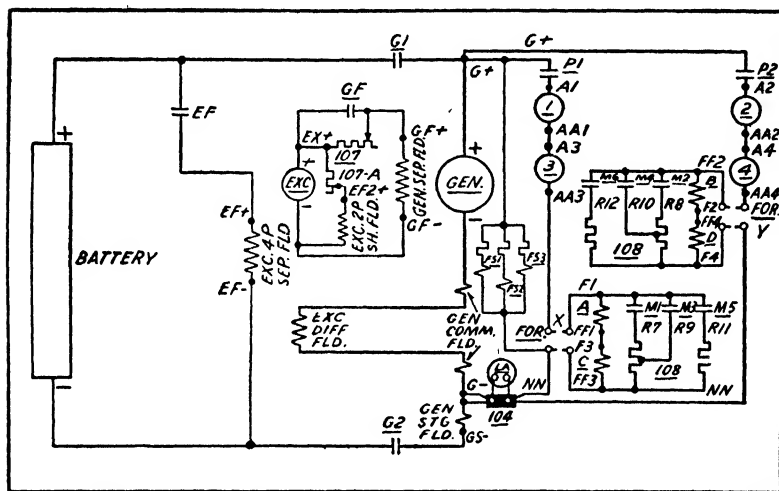
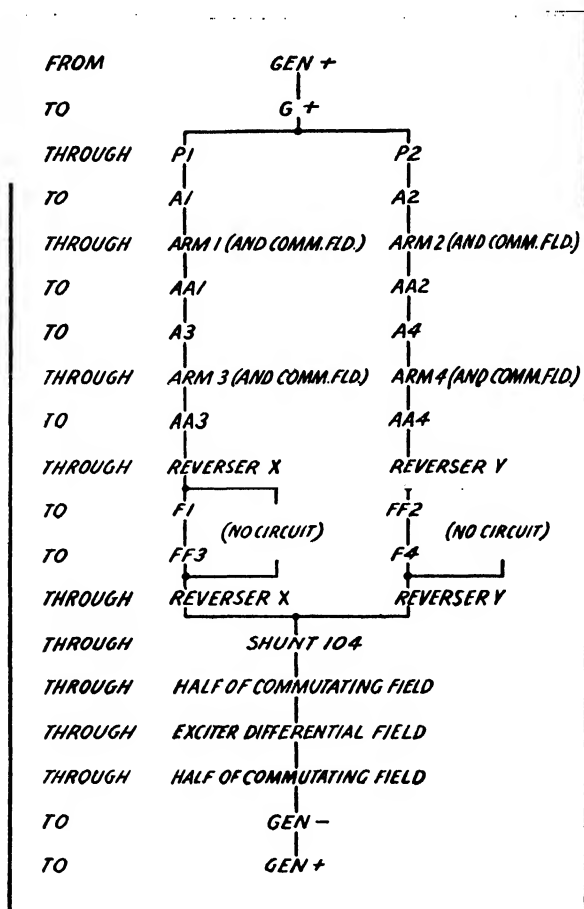
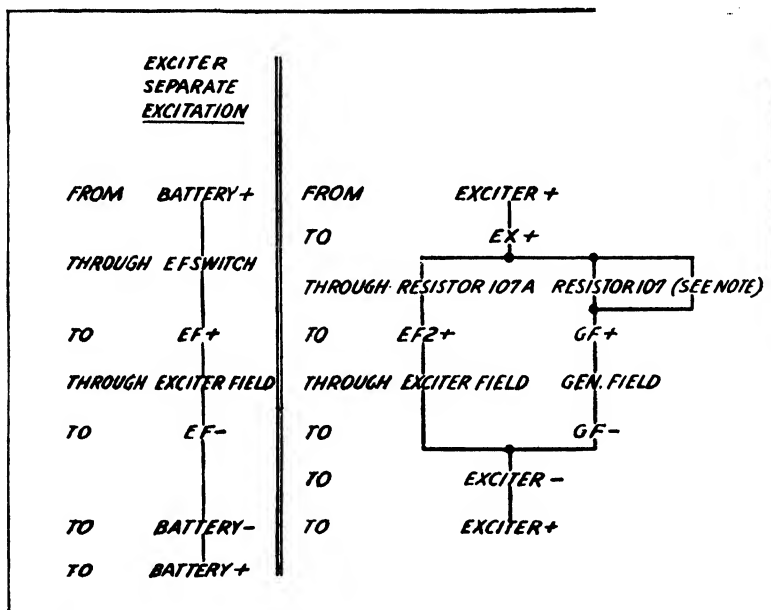
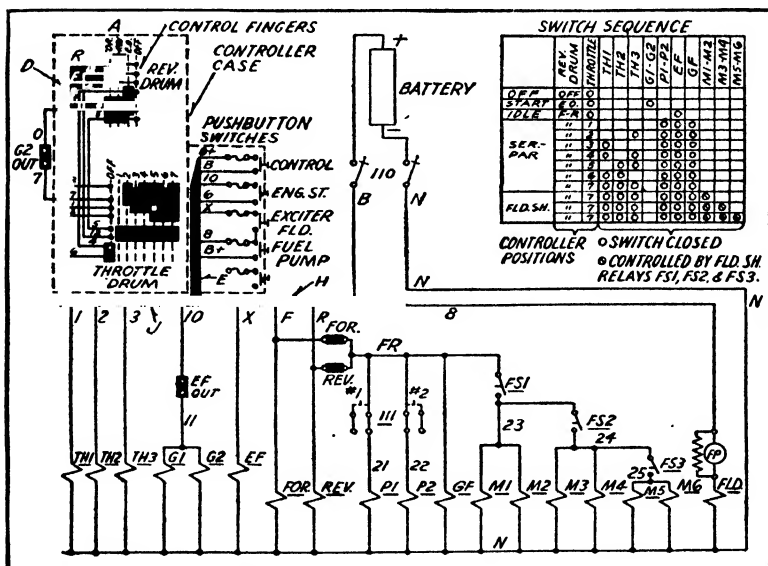

Fig. 30. Schematic Diagram of Main Circuits
Fig. 31. Tracing Through Main Circuits
Fig. 33. Tracing Through Exciter Circuits
Fig. 35. Control Schematic Diagrams
Referring to Fig. 30, this diagram represents the main power circuits of a 1000 horsepower Diesel locomotive. Before following this through, it is necessary to identify each piece of apparatus. The various exciter and generator field coils are labeled and are readily distinguished. The other items are as follows:
Figs. 31 to 34 show a method of following through the main power circuits of Fig. 30. Fig. 31 shows the first step in the application of propulsion power. As the train accelerates, it is desirable to
Fig. 33 traces the excitation circuits of the main generator, as shown by Fig. 30. One other function is shown in Fig. 30—that of starting the Diesel engine by using the main generator as a motor,
The control circuits are somewhat more difficult to follow through because there are so many more of them. The prime purpose of control circuits, of course, is merely to cause the contactors in the main power circuits, Fig. 30, to close or open at the proper time, to move the reverser to the position which gives the desired direction of train movement, to control the engine speed, and to insure that the circuits cannot be improperly set up. Referring to the control circuit schematic, Fig. 35, the first step is to identify each piece of apparatus shown and to determine how it functions.
- G2 OUT ..... Interlock—makes circuit when G2 contactor (see Fig. 30) is open (out).
M6 } Operating coils of their respective contactors (See Fig. 30).
Note that the ENG ST (Engine Starting) push button has a spring under it to return it to the open position when the pressure is released. In upper right-hand corner of diagram, Fig. 35, is a
When the voltage of the main generator reaches 600 volts, the FS1 relay closes (Fig. 30 shows three coils connected to be energized by the voltage of the main generator) and establishes a circuit from the FR wire (Fig. 35) to 23 wire, thereby energizing coils M1 and M2. Likewise, FS2 relay and FS3 relay bring in additional traction motor field shunting switches, M3, M4, M5, and M6 in two progressive steps as the generator voltage rises.
Figs. 30 to 38 illustrate the method of tracing out the circuits for the purpose of determining which of the relays, coils, and apparatus are energized or operated under the different control conditions. It is always necessary to consult the main circuit schematic diagram (such as Fig. 30) in following through the control circuit schematic (such as Fig. 35) in order to see what happens to the power delivery each time the coil of a switch is energized or a relay is operated.